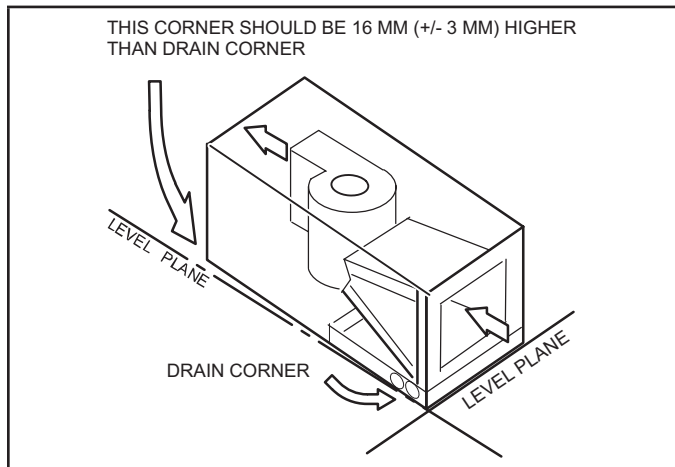

FIGURE 11. Sloping the Unit for Proper Drainage
- 3 - Set unit so that it is sloped toward the drain pan end of the unit (see figure 11).
Make sure the unit is sloped (similar to the slope shown in figure 11) so that the drain pan will empty completely without water standing in the pan.